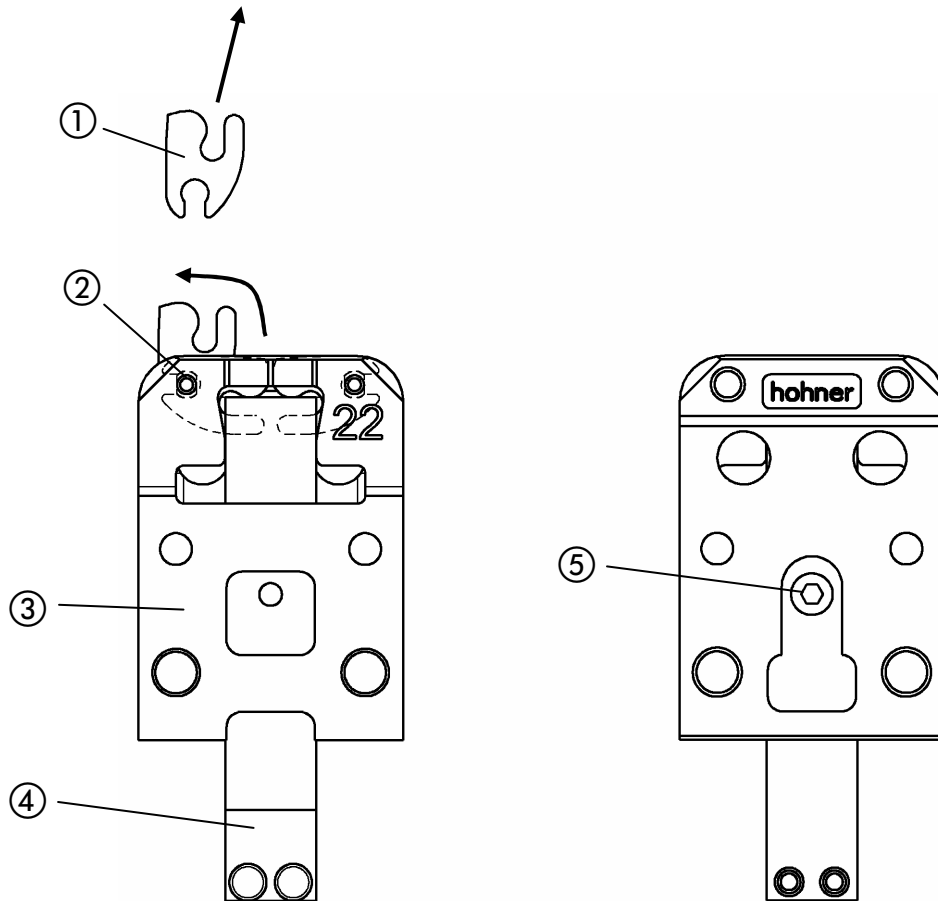

Fig. 27
- Fig. 27 -
- Unscrew locking screw ⑤.
- Remove clincher ram ④ downwards.
- Turn clincher ① upwards in clincher box ③ and remove from the locking pin ②.
- Screw in and tighten locking screw ⑤.